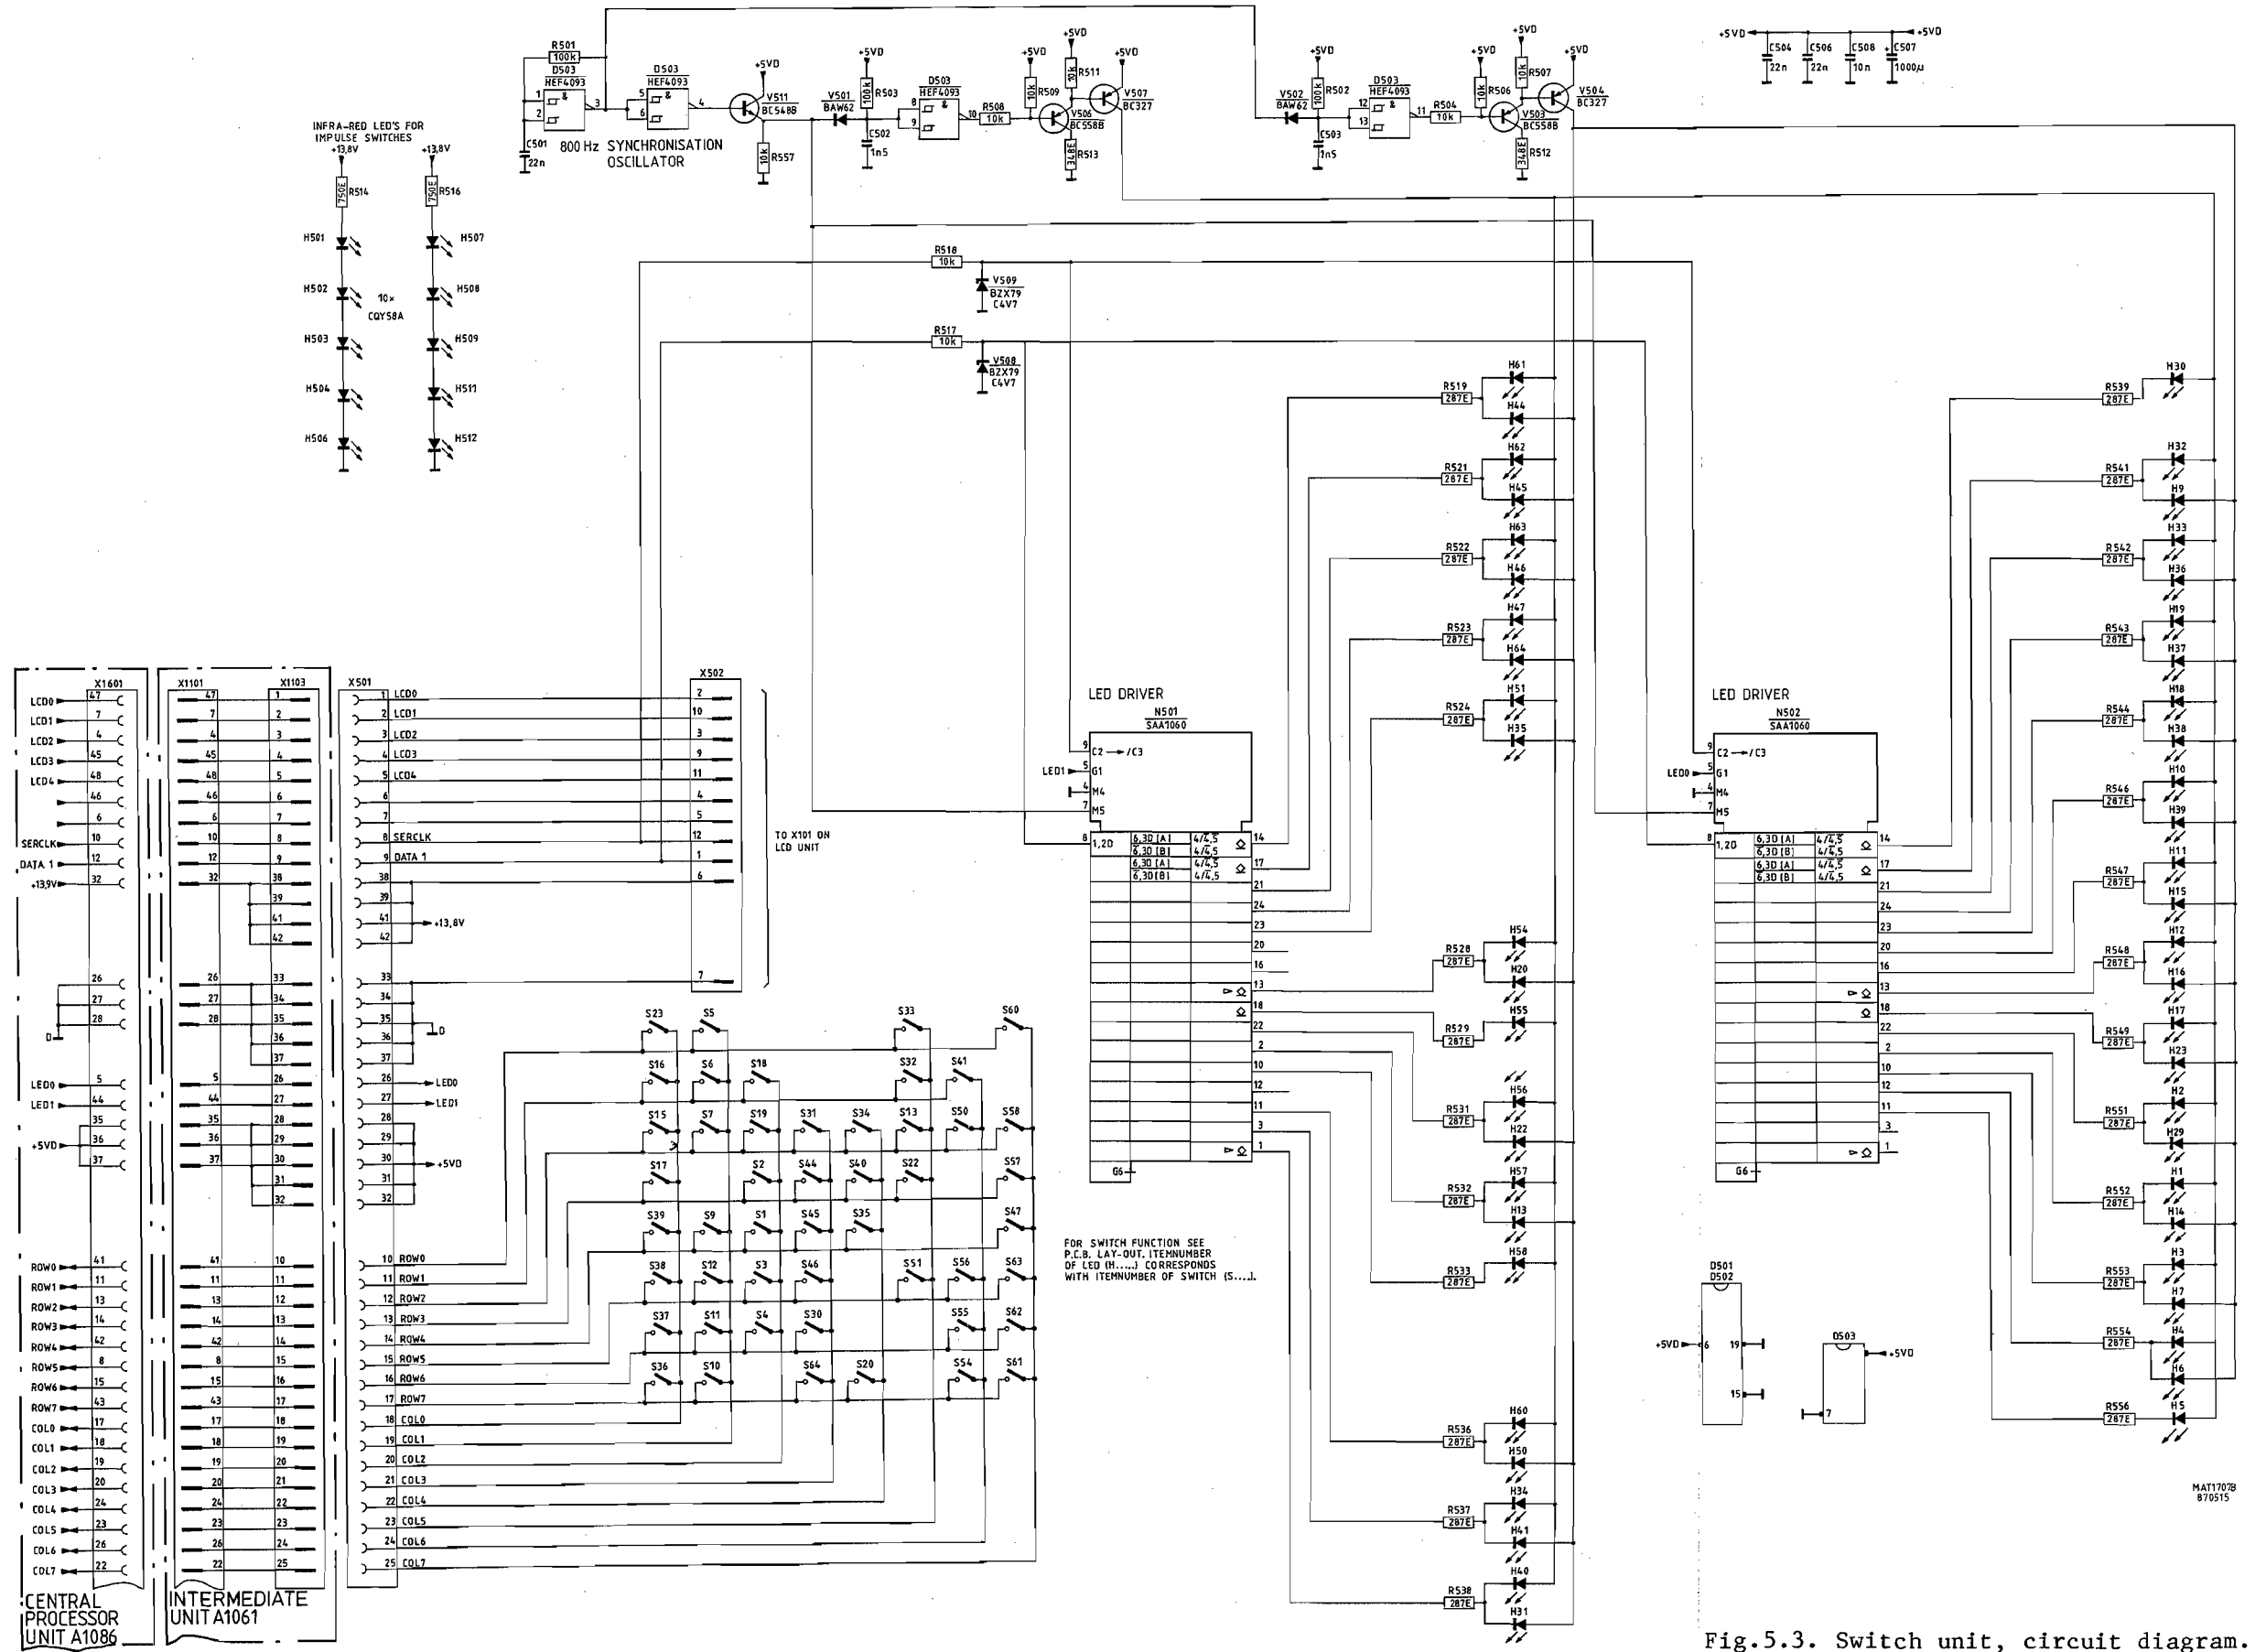

Fig.5.3. Switch unit, circuit diagram.
5. CIRCUIT DESCRIPTION OF SWITCH UNIT (See fig. 5.3.)